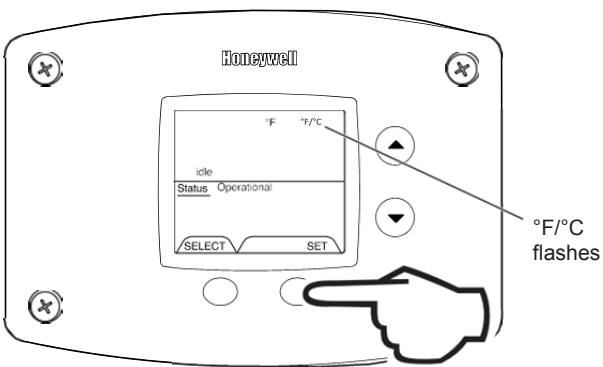

Fig. 20
2. Press 'SET' button to change temperature format. Symbol °F/°C will flash (Fig. 20).